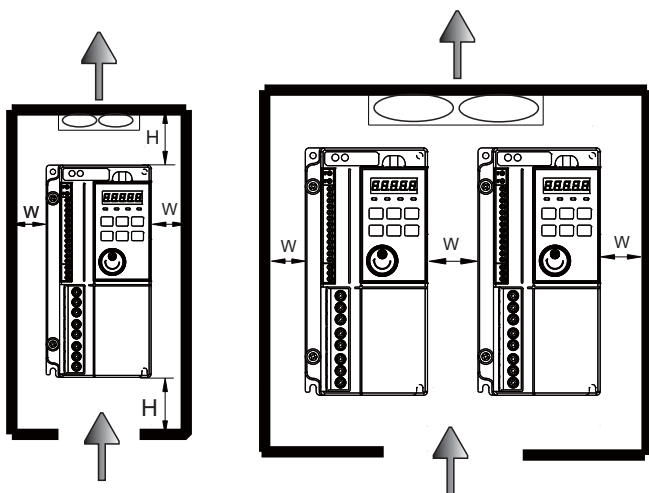

Fig. 2-1
- ◆ A VFD or VFDs installed in a Enclosure, be sure the Free Space for Cooling Effect, Yolico recommended the Free Space around VFD is 100mm for H and 50mm for W. please see Fig. 2-1. Table 2-1 shows the Minimum Free Space required around the VFD to Guarantee Adequate Cooling for all Frame Size .